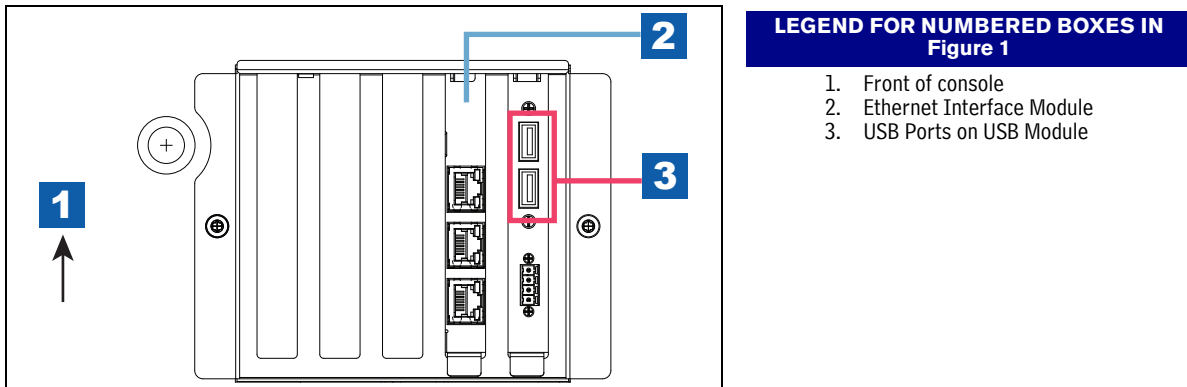

Figure 1. USB Module - USB Ports
- Figure 1. USB Module - USB Ports 3